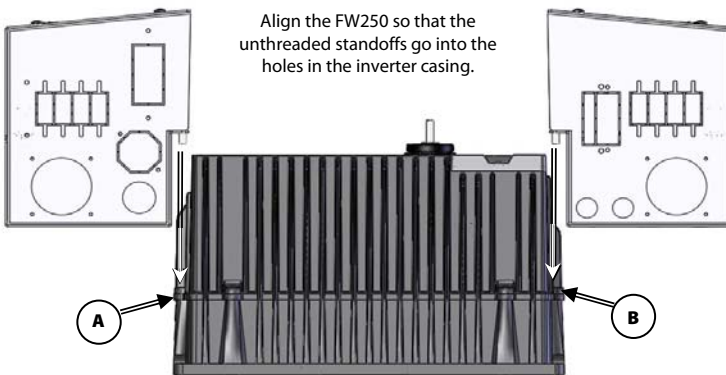

Figure 7 Attaching the FW250 to the FX Inverter
4. Insert the unthreaded standoffs into the holes on the FX and then insert two M5 × 25 mm screws, included with the FW250, into the standoffs and tighten. Torque to 18 in-lb (2.03 Nm). See Figure 7.